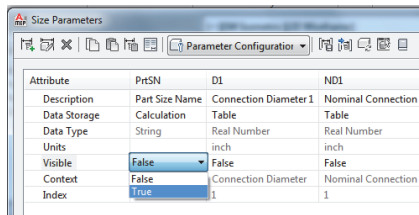

FIGURE 11.18
17. Change Visible to **True** (see Figure 11.18).